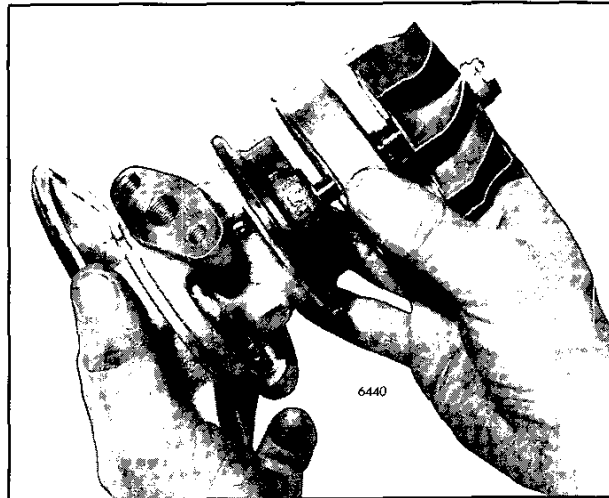

Fig. 19 - Positioning Shaft Assembly into Center Housing
5. Position the wheel shroud on the wheel of the shaft assembly and insert the shaft assembly into the center housing as far as it will go (Fig. 19).